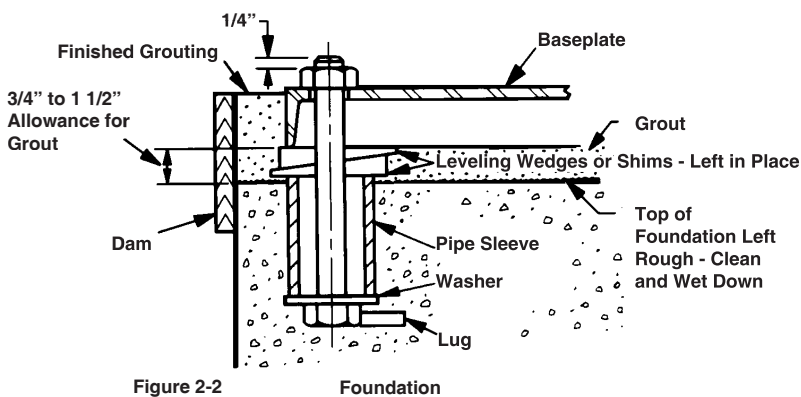

Figure 2-2 Foundation
3. Support the baseplate on metal shims or wedges having a small taper. (Refer to Figure 2-2)